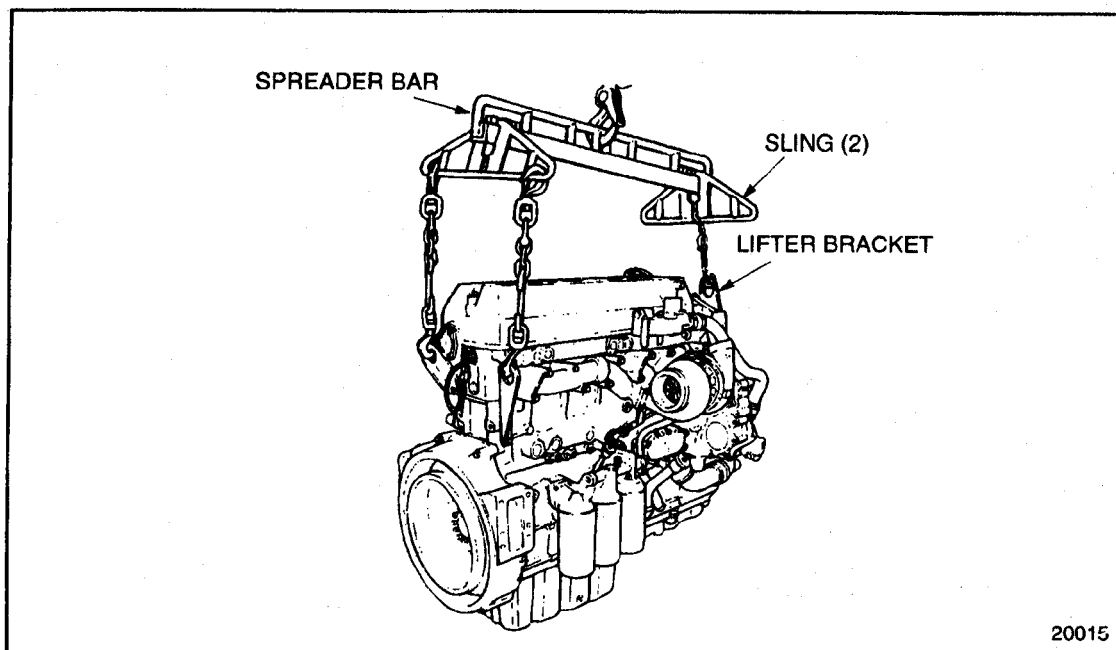

Figure 1-5 Lifting Engine
18. Lift the engine from its mounts using a suitable lifting device. See Figure 1-5.